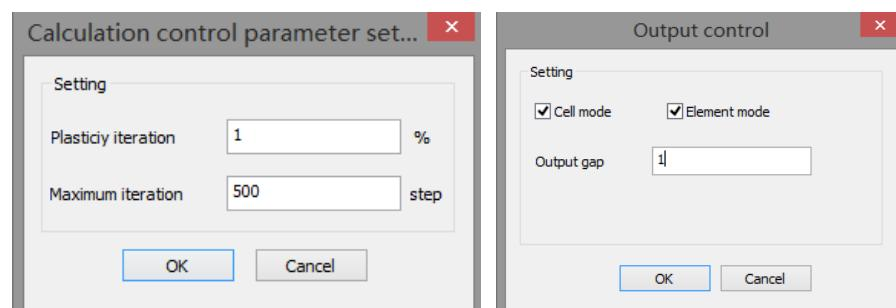

Figure 49 Calculation and output control
- (6) Set calculation and output control (Figure 49);
- (7) Start calculation.